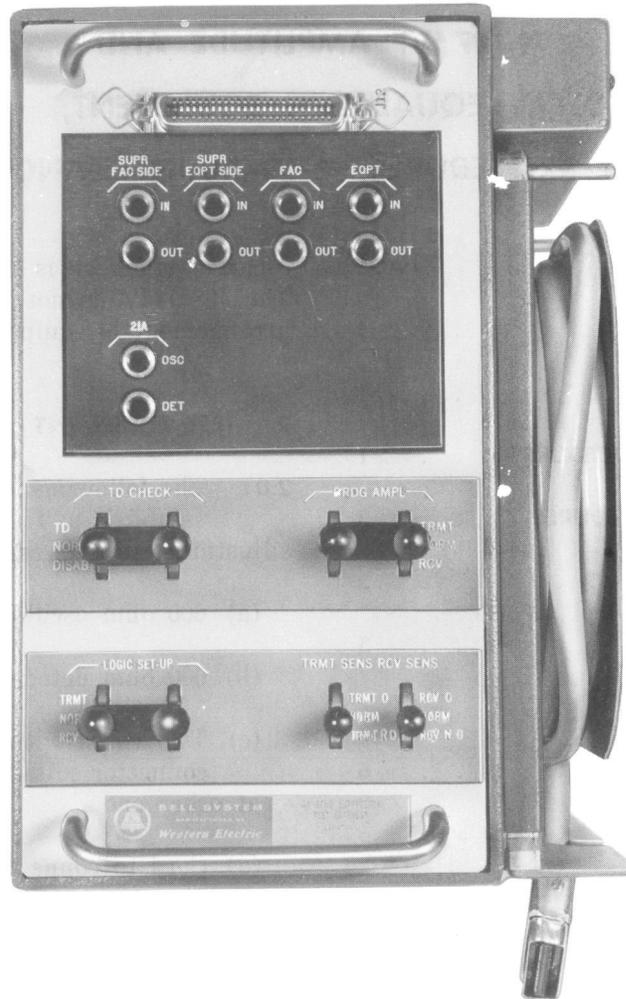

Fig. 1—J68914TA Test Extender
- (e) One J68914TA test extender (required to access J99347B bay or the logic position of the 4A Echo Suppressor)—Fig. 1.